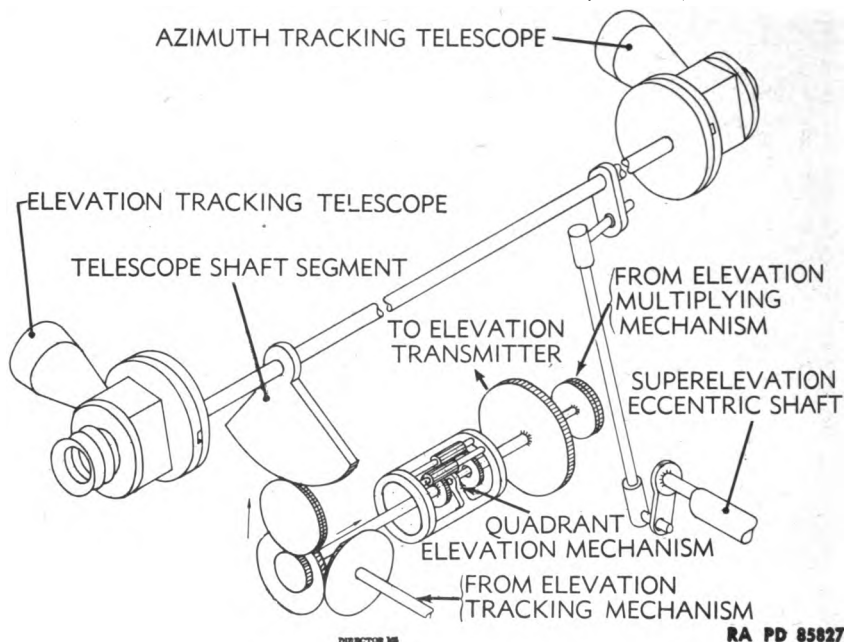

Figure 42 — Quadrant Elevation Mechanism, Telescope Shaft, and Superelevation Eccentric Connection — Schematic Diagram
put, known as the quadrant (firing) elevation, goes to the elevation transmitter assembly. Figure 42 shows the schematic relation of this unit to the others.
(1) The transmitter assembly includes the synchronous transmitter or transmitters which send the quadrant elevation to the gun, a gear train, and two elevation dials.
(2) Director M5 employs only one (fine) elevation transmitter in elevation transmitter assembly D43824; however, a coarse elevation dial is provided which is geared and graduated to show approximately 100 degrees elevation in one revolution.
(3) Director M6 uses elevation transmitter assembly D43834 which is identical with assembly D43824 except for the transmitter voltage and frequency.
(4) Director M5A1. Elevation transmitter assembly D83539 employs a coarse and a fine transmitter, with a dial for each. It is identical with the azimuth transmitter assembly except for the coarse dial, which is graduated only in the 110-degree sector normally used. On older models of the Director M5A1, the coarse elevation transmitter dial is identical with the coarse azimuth dial.
i. The Telescope Shaft Assembly and Open Sight (figs. 42 and 45). The telescope shaft assembly includes the flanges on which the